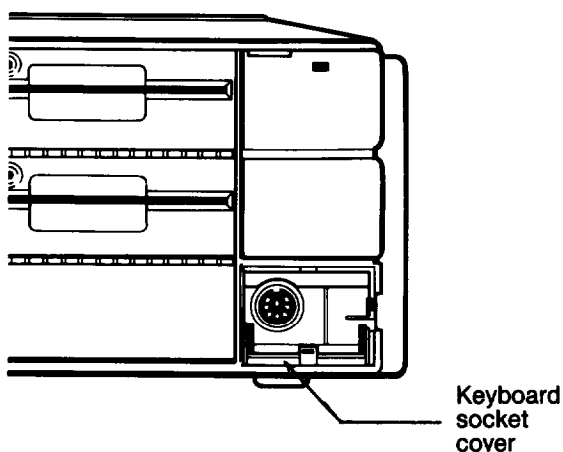

Figure 1-6. Opening the keyboard socket cover
1. Open the cover at the lower right front corner of the main unit, as shown in Figure 1-6.